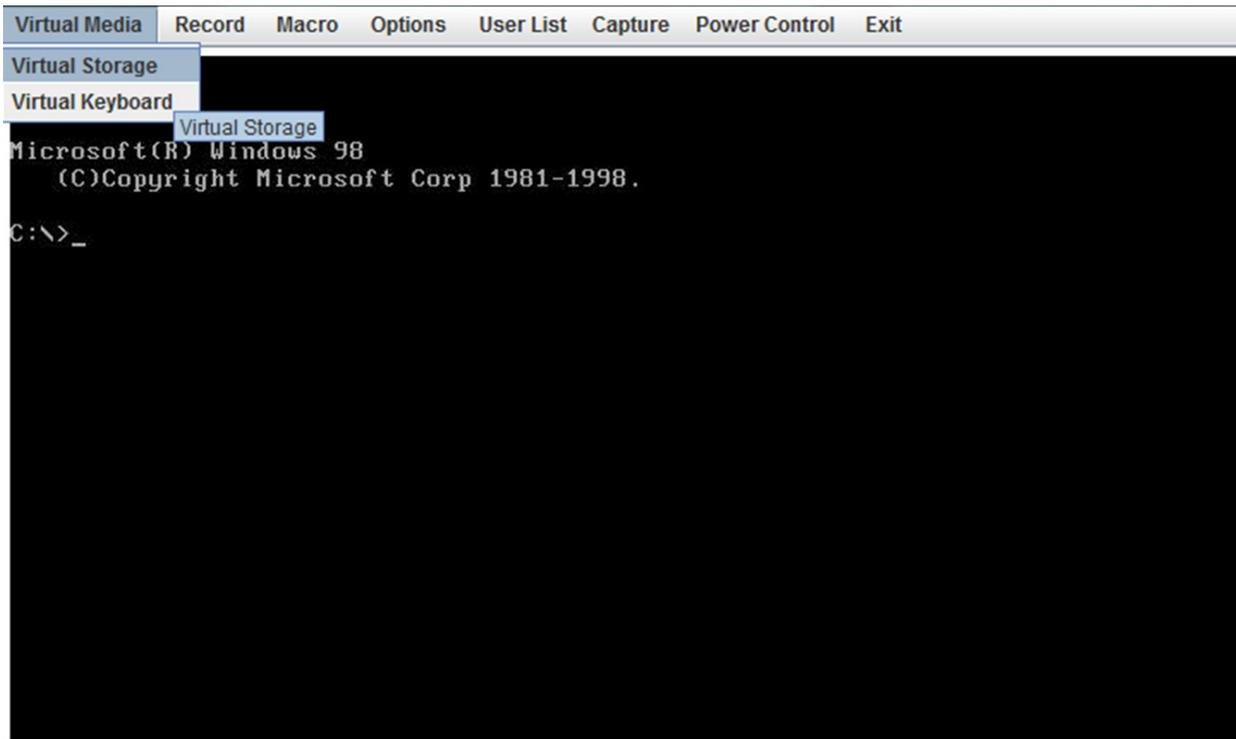
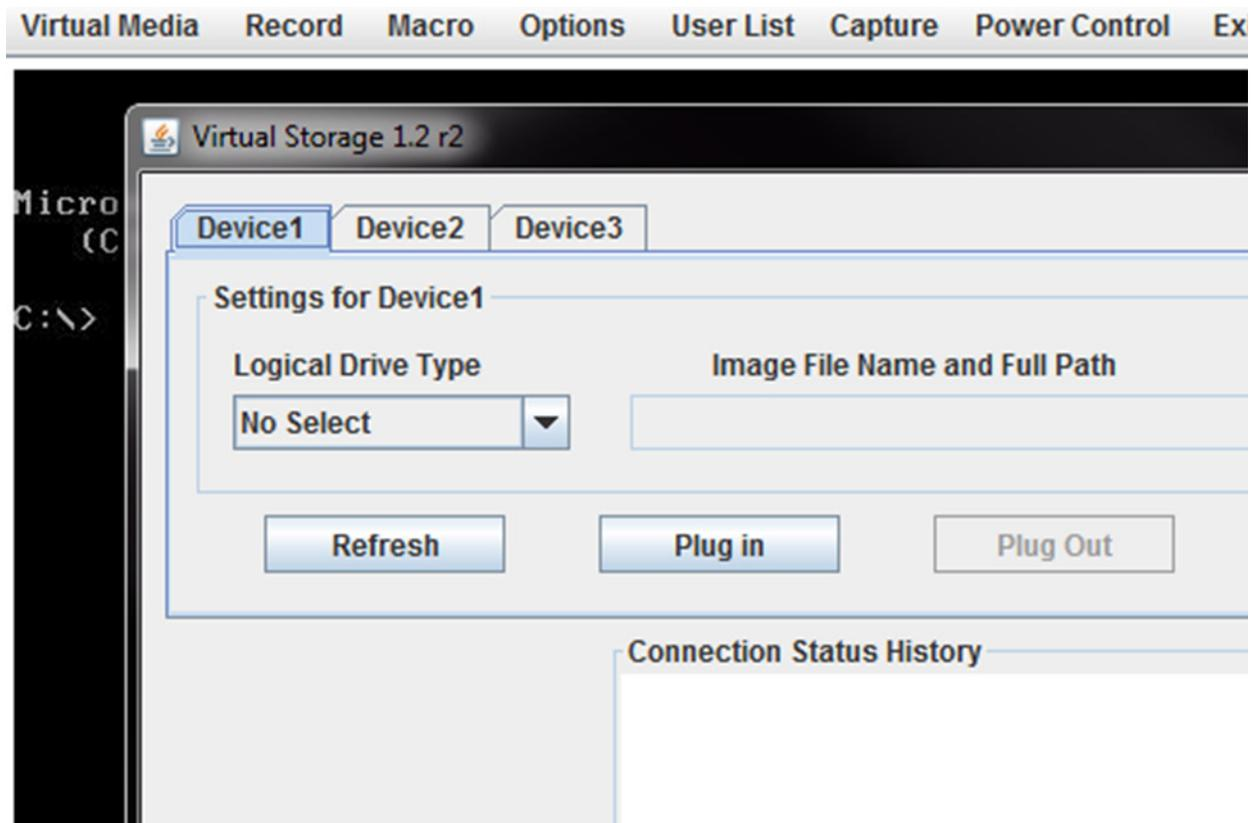

Figure A-3. KVM Console Window
Figure A-4. Virtual Storage Window
2. In the KVM Console window, click on the Virtual Storage menu option from the Virtual Media menu (Figure A-3). The Virtual Storage window will be displayed (Figure A-4).